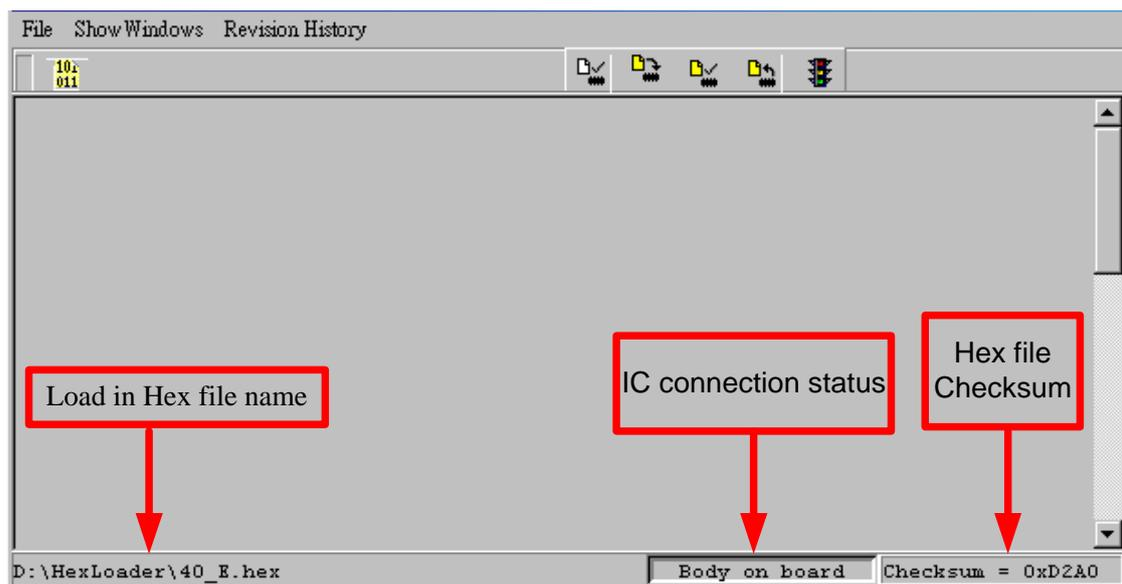

Figure 1- 11
(3) After the Password was set, it will ask whether to specify programmer; once a programmers was specified; only it can read the Code of Flash Memory. If not specified, then any programmer can read the code.
(4) If the programming time function was enabled, the message field will display the programming limit number.
(5) After compile finished, the Hex file name and Checksum would be shown in the message line as shown in Figure 1- 11.